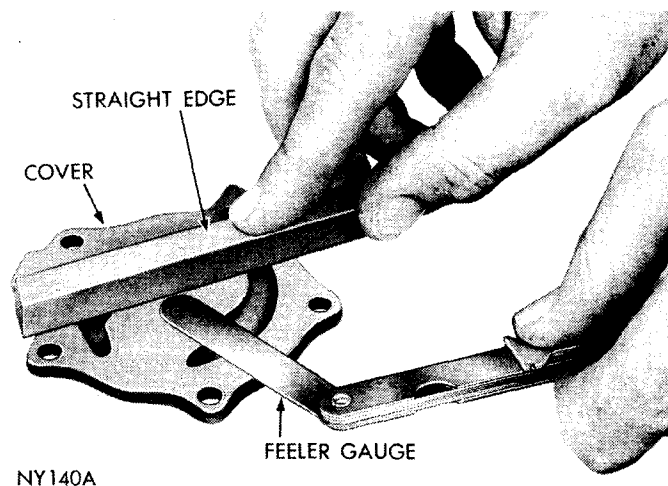

Fig. 47—Measuring Oil Pump Cover Flatness
(1) Clean all parts thoroughly. Mating face of oil pump cover should be smooth. Replace cover if it is scratched or grooved.
(2) Lay a straightedge across the oil pump cover surface (Fig. 47). If a .0015 feeler gauge can be inserted between cover and straightedge, cover should be replaced.